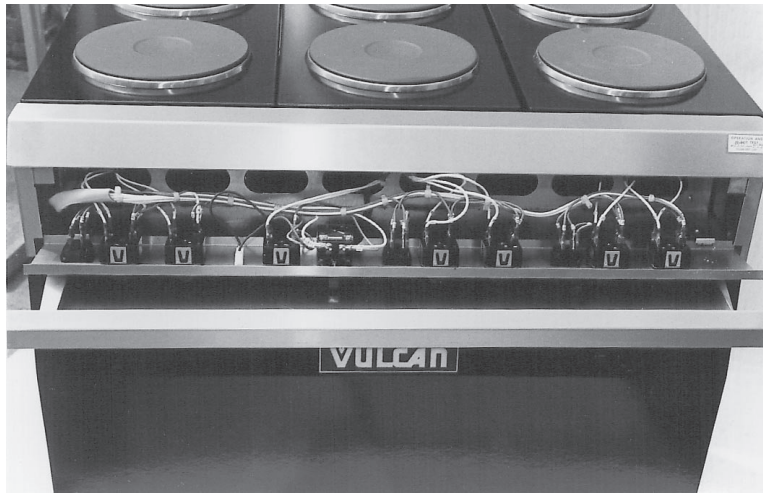

Fig. 8
5. Lay the manifold cover down so that it rest on the crumb tray. (Fig. 8)